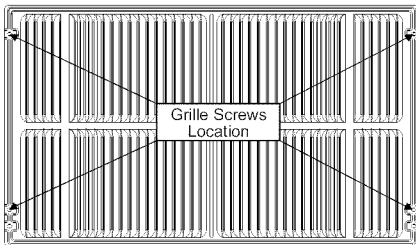

Fig. 2
4. If the unit has not been pre-drilled (some models), carefully drill 4 - 1/8" holes through the grille and into the side flange of the unit approximately 1 1/2" to 2" from the top and bottom as in Fig. 2, 3 . (Be careful not to drill into the copper heat exchanger coils.)